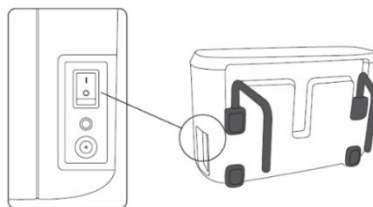

Figure 1. On/Off switch.
1. Set the On/Off switch on the side of the control unit to position 1 (On). See figure 1.